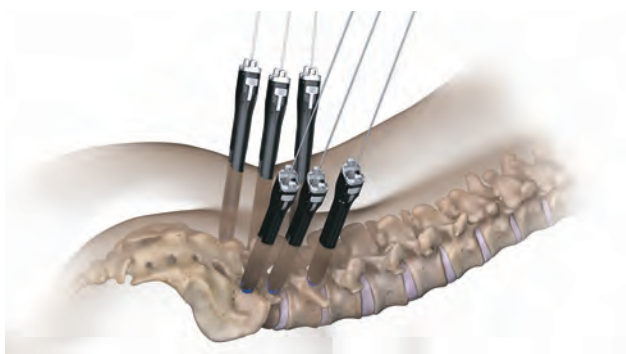

Figure 12b
- Remove the screw inserter by turning the central barrel counterclockwise until it has released from the screw head, and pull up out of the screw tower (Figure 12b).